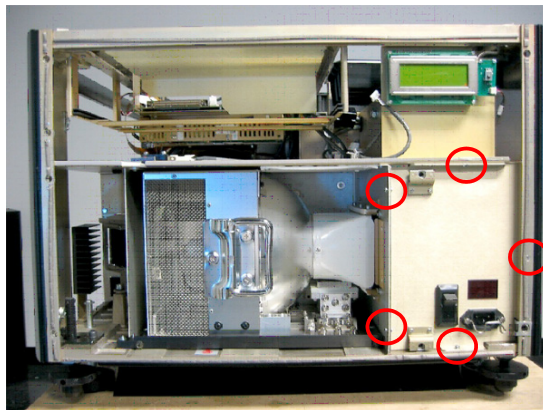

Figure 4-3 Remove Metal Panel
1. Remove the AC receptacle panel covering the blower fan by removing the five screws as shown in **Figure 4-3**.